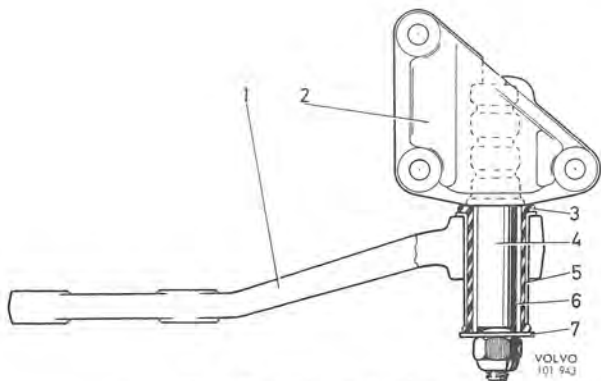

Fig. 6-48. Relay arm bearing
The ball joints of the tie rod can be replaced individually. When removing, first take off the split pins and crown nuts. Then place tool 2294 on the ball joints as shown in Fig. 6-48. Press in the tool well and make sure that the thread on the ball joint enters the recess in the tool. Screw in the bolt until the ball joint loosens. Then remove the locknut on the rod and unscrew the ball joint. From the beginning the new ball joint is screwed the same number of turns and this facilitates adjusting toe-in. Lock the ball joint with the rod.
2. Disconnect the ball joints for the steering rod and tie rod from the relay arm with puller 2294, see Fig. 6-48.